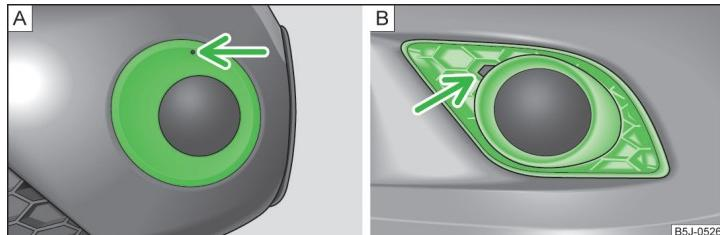

Fig. 159 Front bumper: Fabia Scout/Fabia RS
- Insert the tool into the opening above the fog light » Fig. 159 - **A** (Fabia Scout) » page 158, **Vehicle tool kit** and remove the cover.
- Insert a finger into the opening next to the foglight » Fig. 159 - **B** (Fabia RS) and remove the cap.